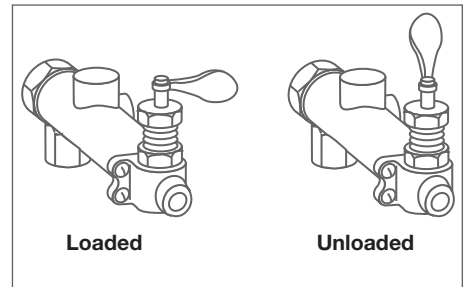

Figure 7 - Control Valve
4. Before starting the compressor, put toggle lever in Unload position. After engine reaches full speed, flip toggle lever to Loaded position (See Figure 7).